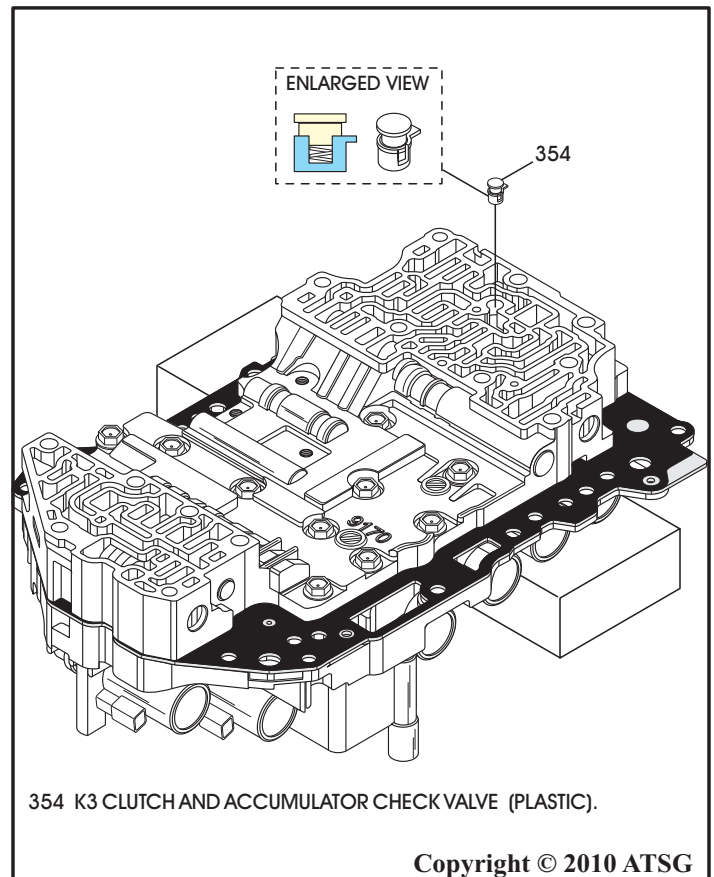

Figure 158
25. Remove the four alignment dowels and install plastic check valve in the upper valve body, as shown in Figure 158.